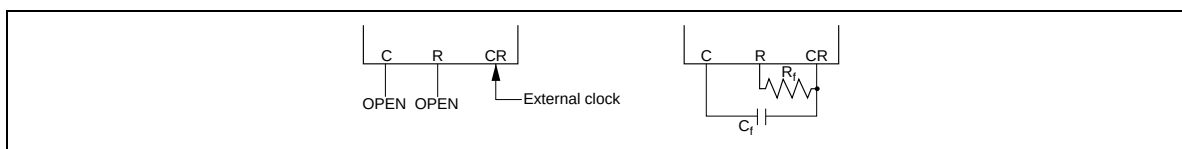
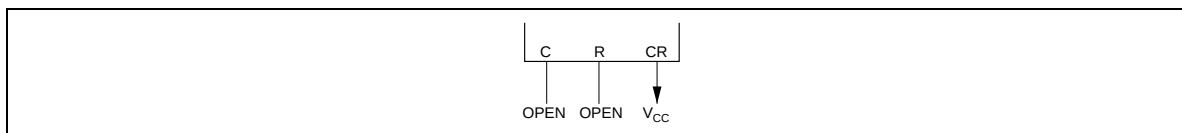

Figure 4 Oscillator Connection in Master Mode
Figure 5 Oscillator Connection in Slave Mode
1. **CR Oscillator:** The CR oscillator generates the HD66503 operation clock. During master mode, since the operation clock is needed, connect oscillation resistor R_i with oscillation capacitor C_i as follows. When the external clock is used, input external clock to pin CR and open pins C and R (Figure 4). When using the HD66503 during slave mode, the operation clock will not be needed; therefore, connect pin CR to V_{cc} and open pins C and R (Figure 5).